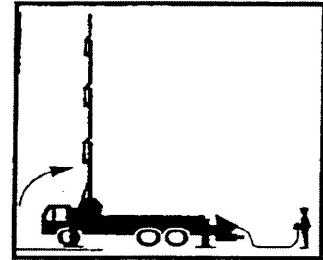

Figure 1
2. Starting with the boom extended over the cab of the truck, raise the boom to an over center vertical position. This will cause the boom to rock backwards on the turntable toward the hopper. (See Figure 1.)